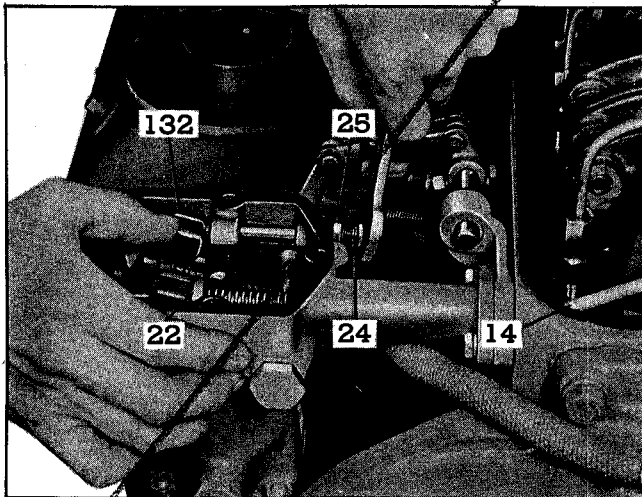

Fig. 15—Adjust Load Limit.
1. Place fuel rod (14) and terminal lever (132) in the FULL FUEL position as shown in Fig. 15.
2. Loosen lock nut (25). Turn adjusting screw (24) until a .020" space exists between the fuel rod collar (22) and the terminal lever (132). Hold screw and tighten lock nut.